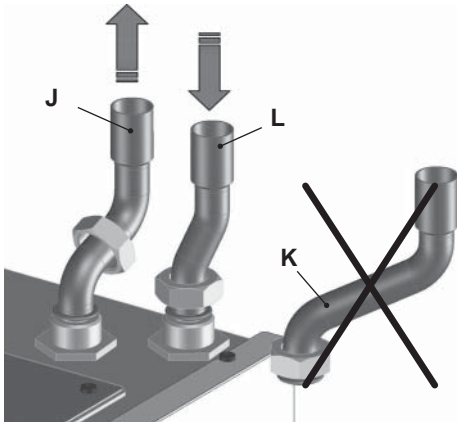
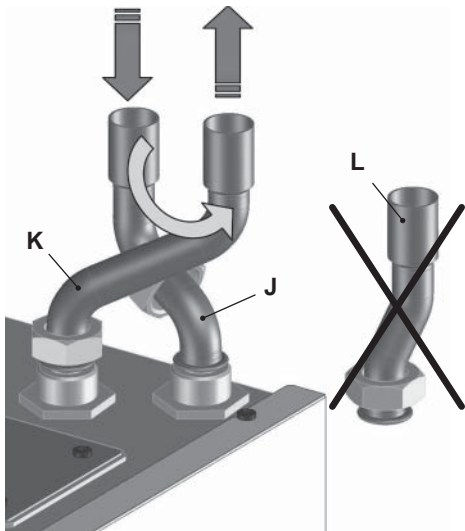
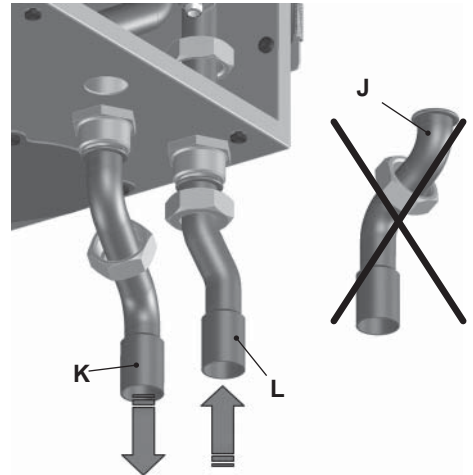
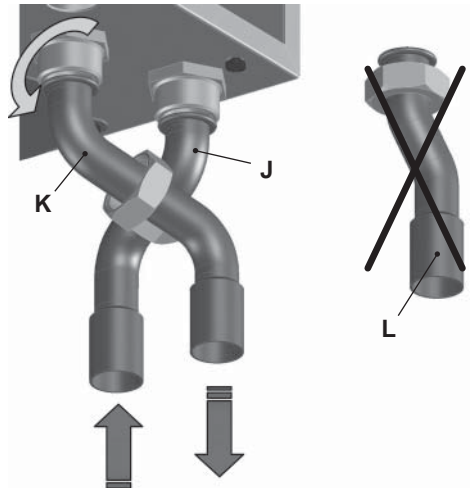

Fig. 6.3
Fig. 6.4
Fig. 6.5
Fig. 6.6
- The boiler is supplied with 22 mm copper tails for both upwards (Fig. 6.3 and Fig. 6.4) and downwards (Fig. 6.5 and Fig. 6.6) flow and return pipe routing suitable for compression or soldering connections. The paper template supplied with the boiler, gives a real size view of the copper tails that helps to identify them.